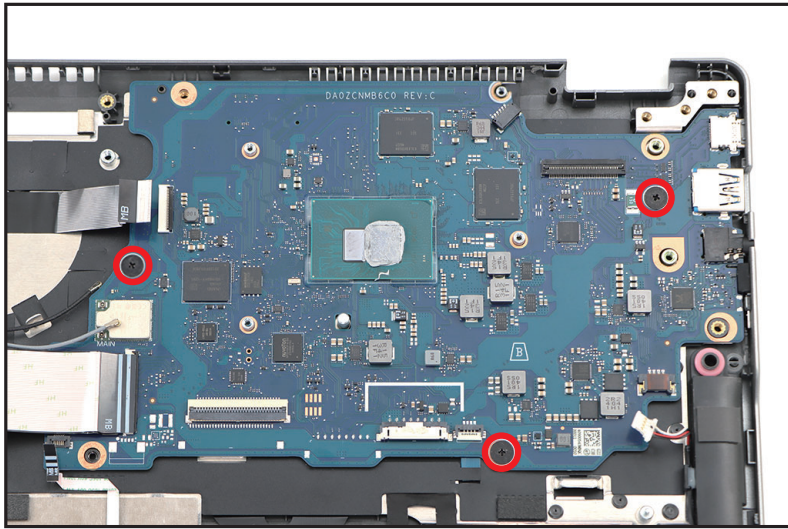

Figure 1-26. Mainboard Removal
7. Remove three (3) screws securing the mainboard in place (Figure 1-26).